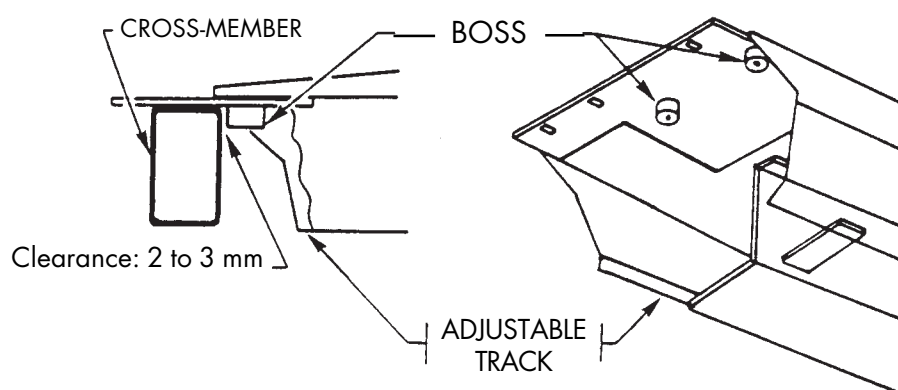

Fig. 6
- Adjustable track: Place the adjustable track on the cross-members as far as possible from the fixed track and with its wheel guide flange facing inwards. Move the ends of the cross-members so the track can fit in-between them in order to give 2 to 3 mm clearance between the cross-member beam and the bosses at each end (Fig. 6). Tighten the connecting screws to secure the horizontal gusset onto the fixed track.